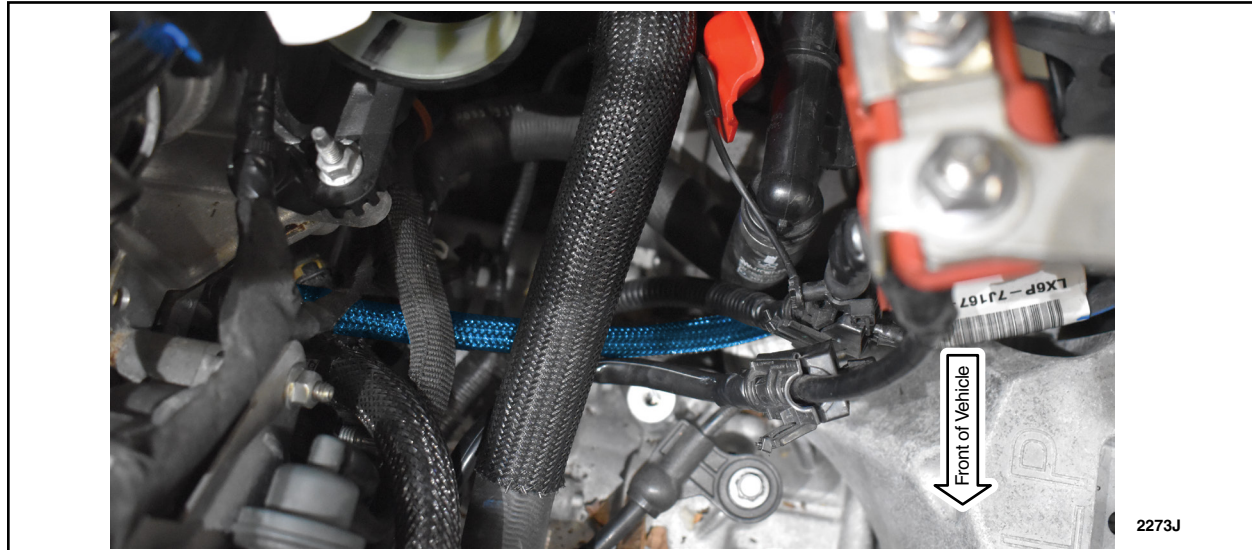

FIGURE 9
12. Route hose as shown in Figure 9.